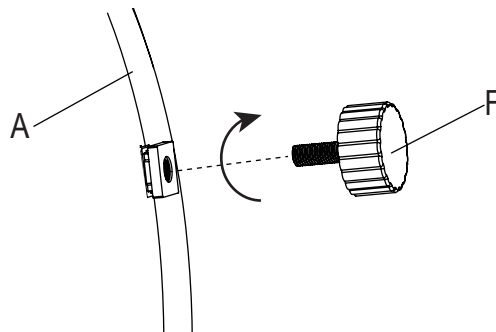

Figure 2
- With the help of another person, carefully side place the fire pit (A) on a non-abrasive flat surface to prevent scratching, check the four corners at the bottom of fire pit, then line up the foot pad (F) with the screw hole and screw clockwise (see Figure 2).